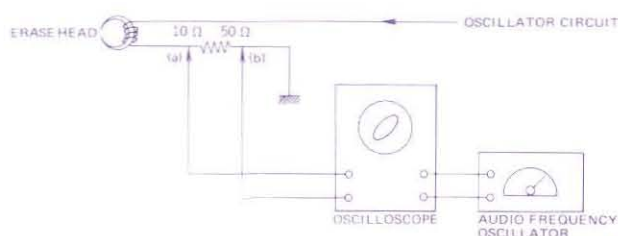

Fig. 1
1. ADJUSTMENT OF RECORDING BIAS FREQUENCY (See Fig. 1)